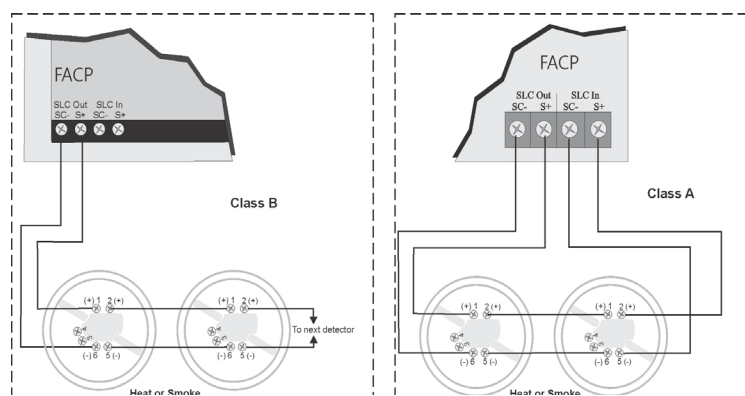

Figure 7.6 Heat or Smoke Detector Connection to the FACP (Class B)
1. Wire the device bases as shown in Figure 7.6.